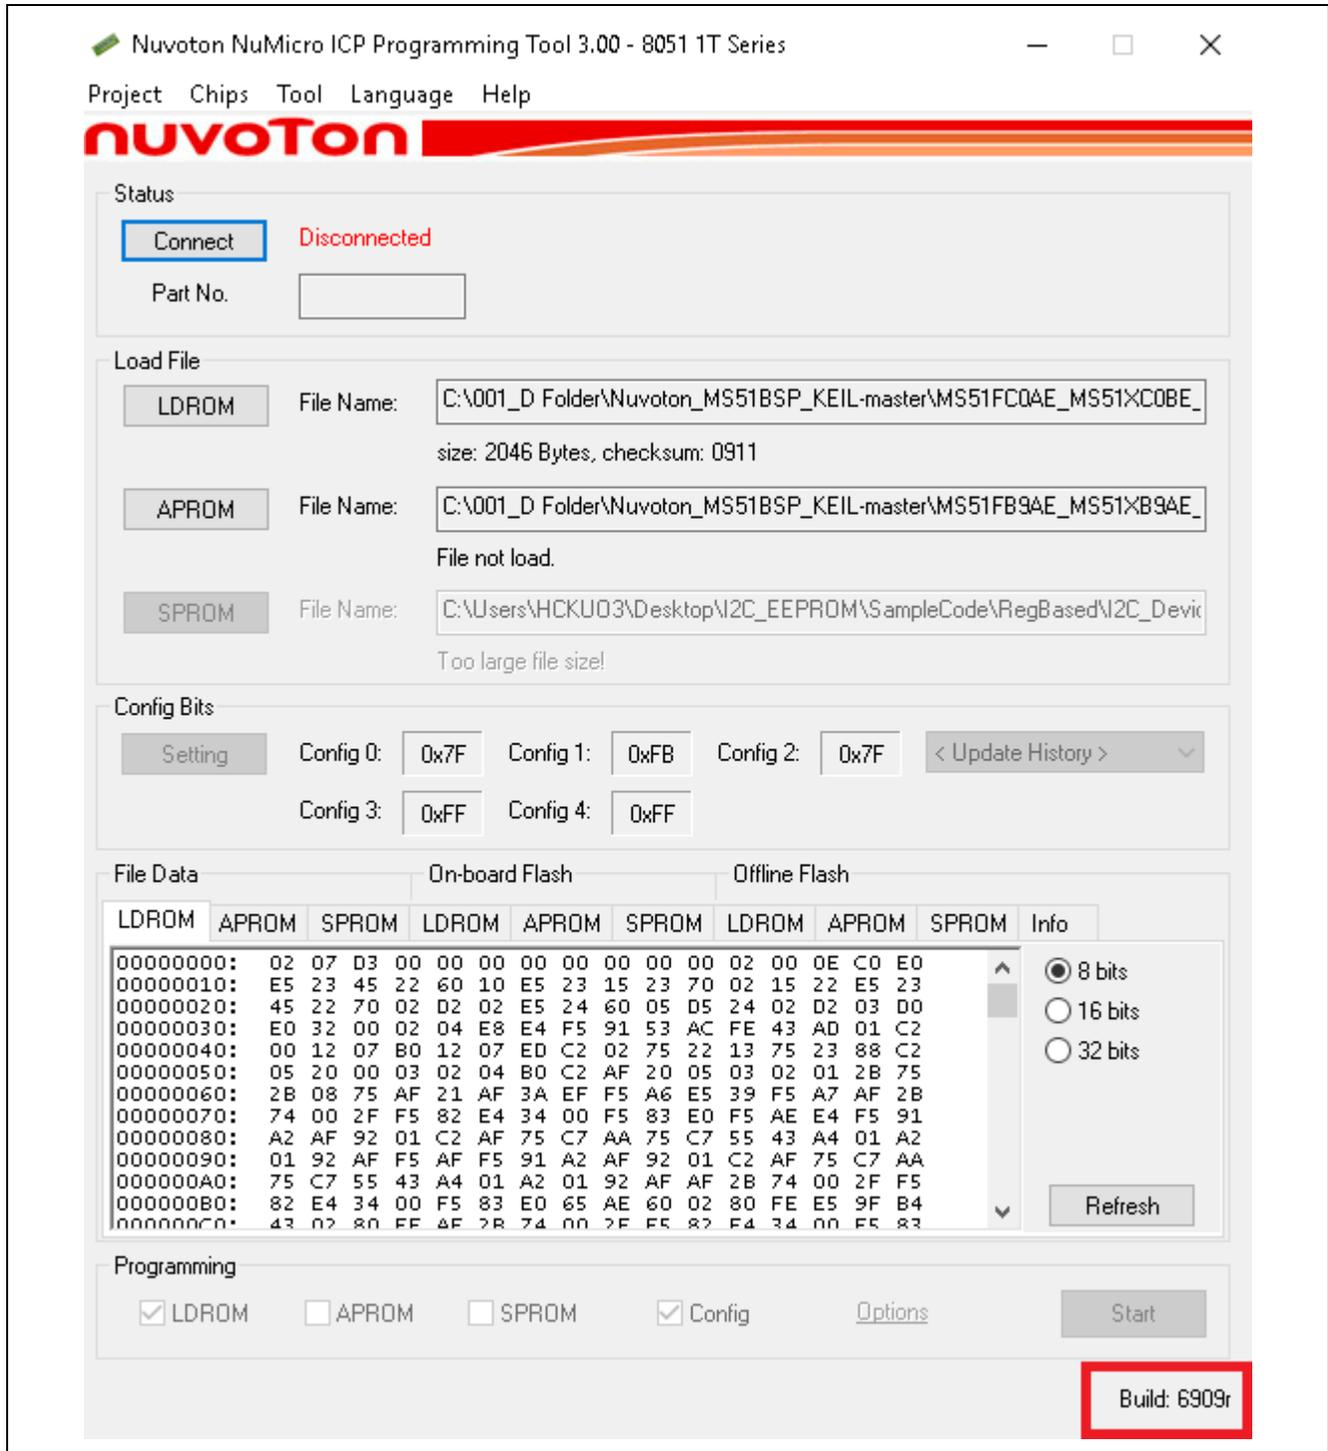

Figure 4.1-1 ICP Programming Tool Version
1. The ICP Programming Tool should be updated to V3.00.6909 or later, as shown in Figure 4.1-1.